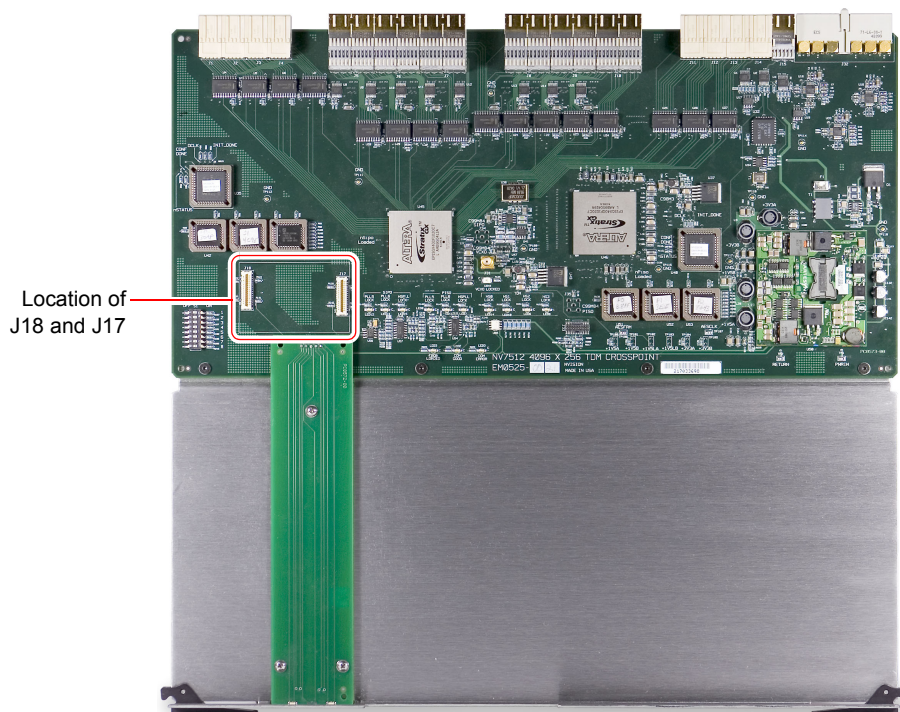

Figure 3-3. Location of Jumpers on TDM Crosspoint Card
- 3 Locate connections J18 and J17 on the crosspoint card, as shown in Figure 3-3 on page 79.